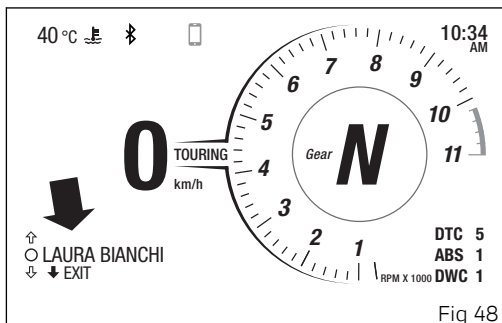

Fig 48
To display the list of calls, press button (4). When entering this function, the display shows message "WAIT.." for a few seconds, then shows the name or phone number from the last call (Fig 48).